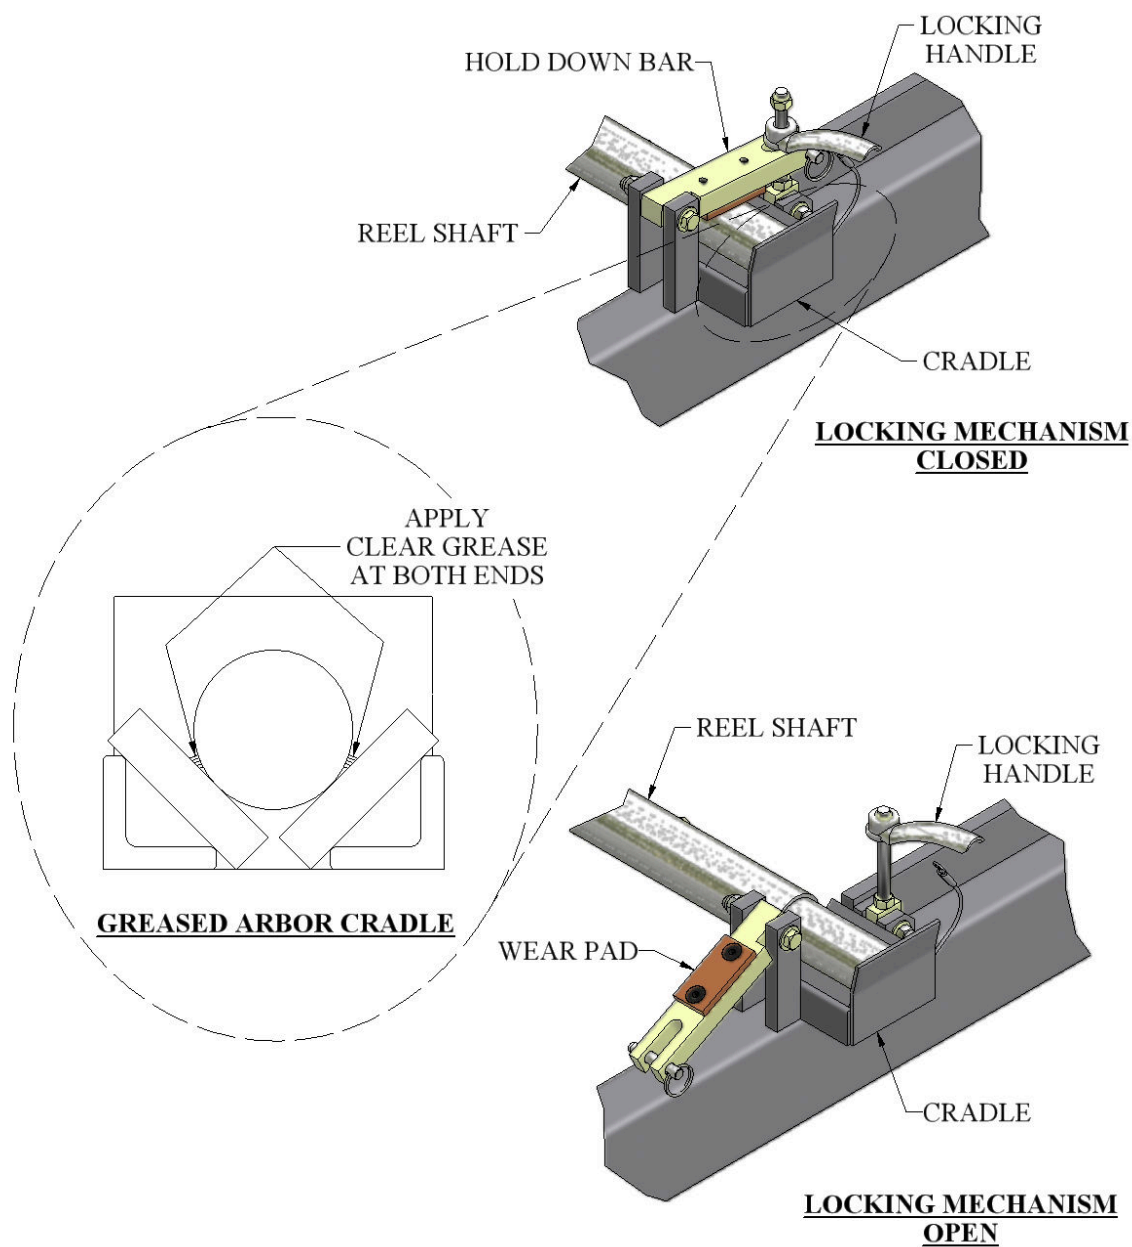

Figure 17: Expandable Reel Assembly
1. The reel shafts must rest in the cradles on the reel rack. Keep the cradles lubricated with synthetic lube to minimize wear. (Figure 17)
2. Use the Hold Down Bars on each cradle to secure the coil and reel to the reel stand during both operation and transit of the machine. The Hold Down Bracket should be used to keep the coil from uncoiling too fast during the fabrication of panels. Tighten only enough to prevent free-spooling. Excessive tension increases drive load and reduces component life. (Figure 17)
1. Prepare the reel stand by making sure the Hold Down Bars are in the unlocked and open Position (Figure 17).
3. Rotate the Hold Down Bars (Figure 17) to the closed position and thread the handle onto the hold down bolt. If material is going to be used from this coil, tighten the left and right handle just snug. Final adjustment of tension should be made while running a panel to keep reel from unwinding material too fast. As the coil becomes smaller, re-adjustment will need to be made.